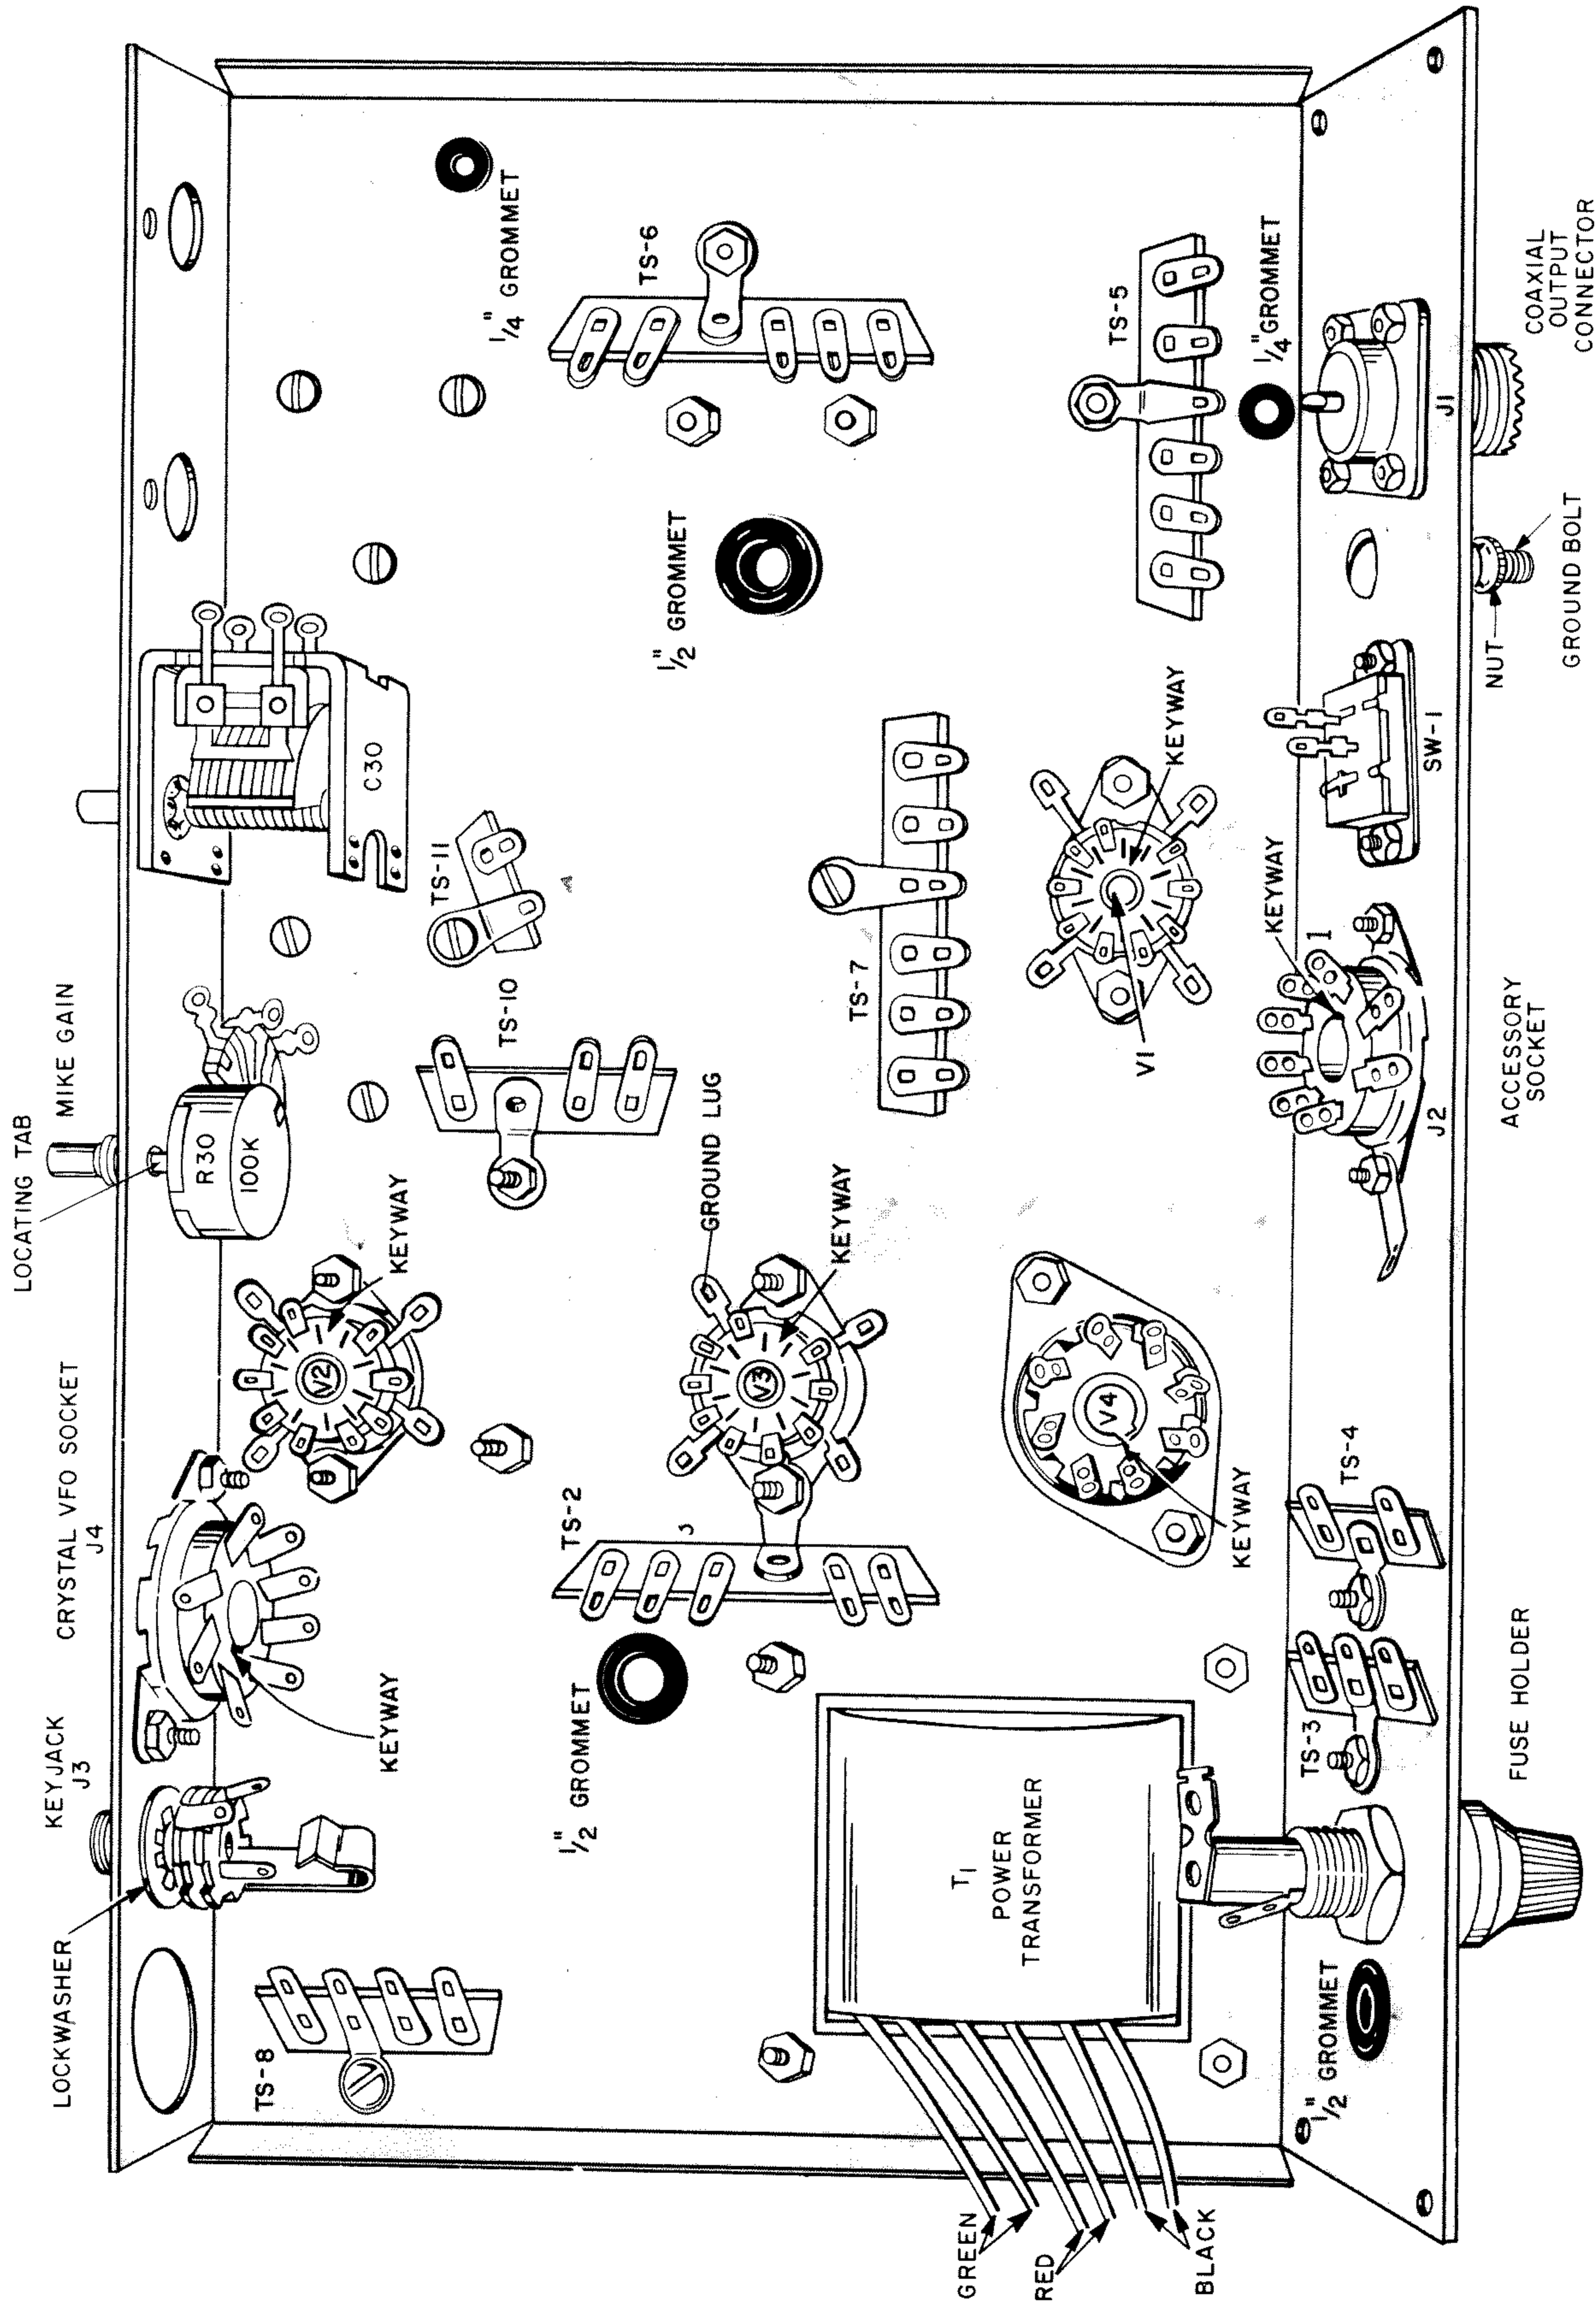
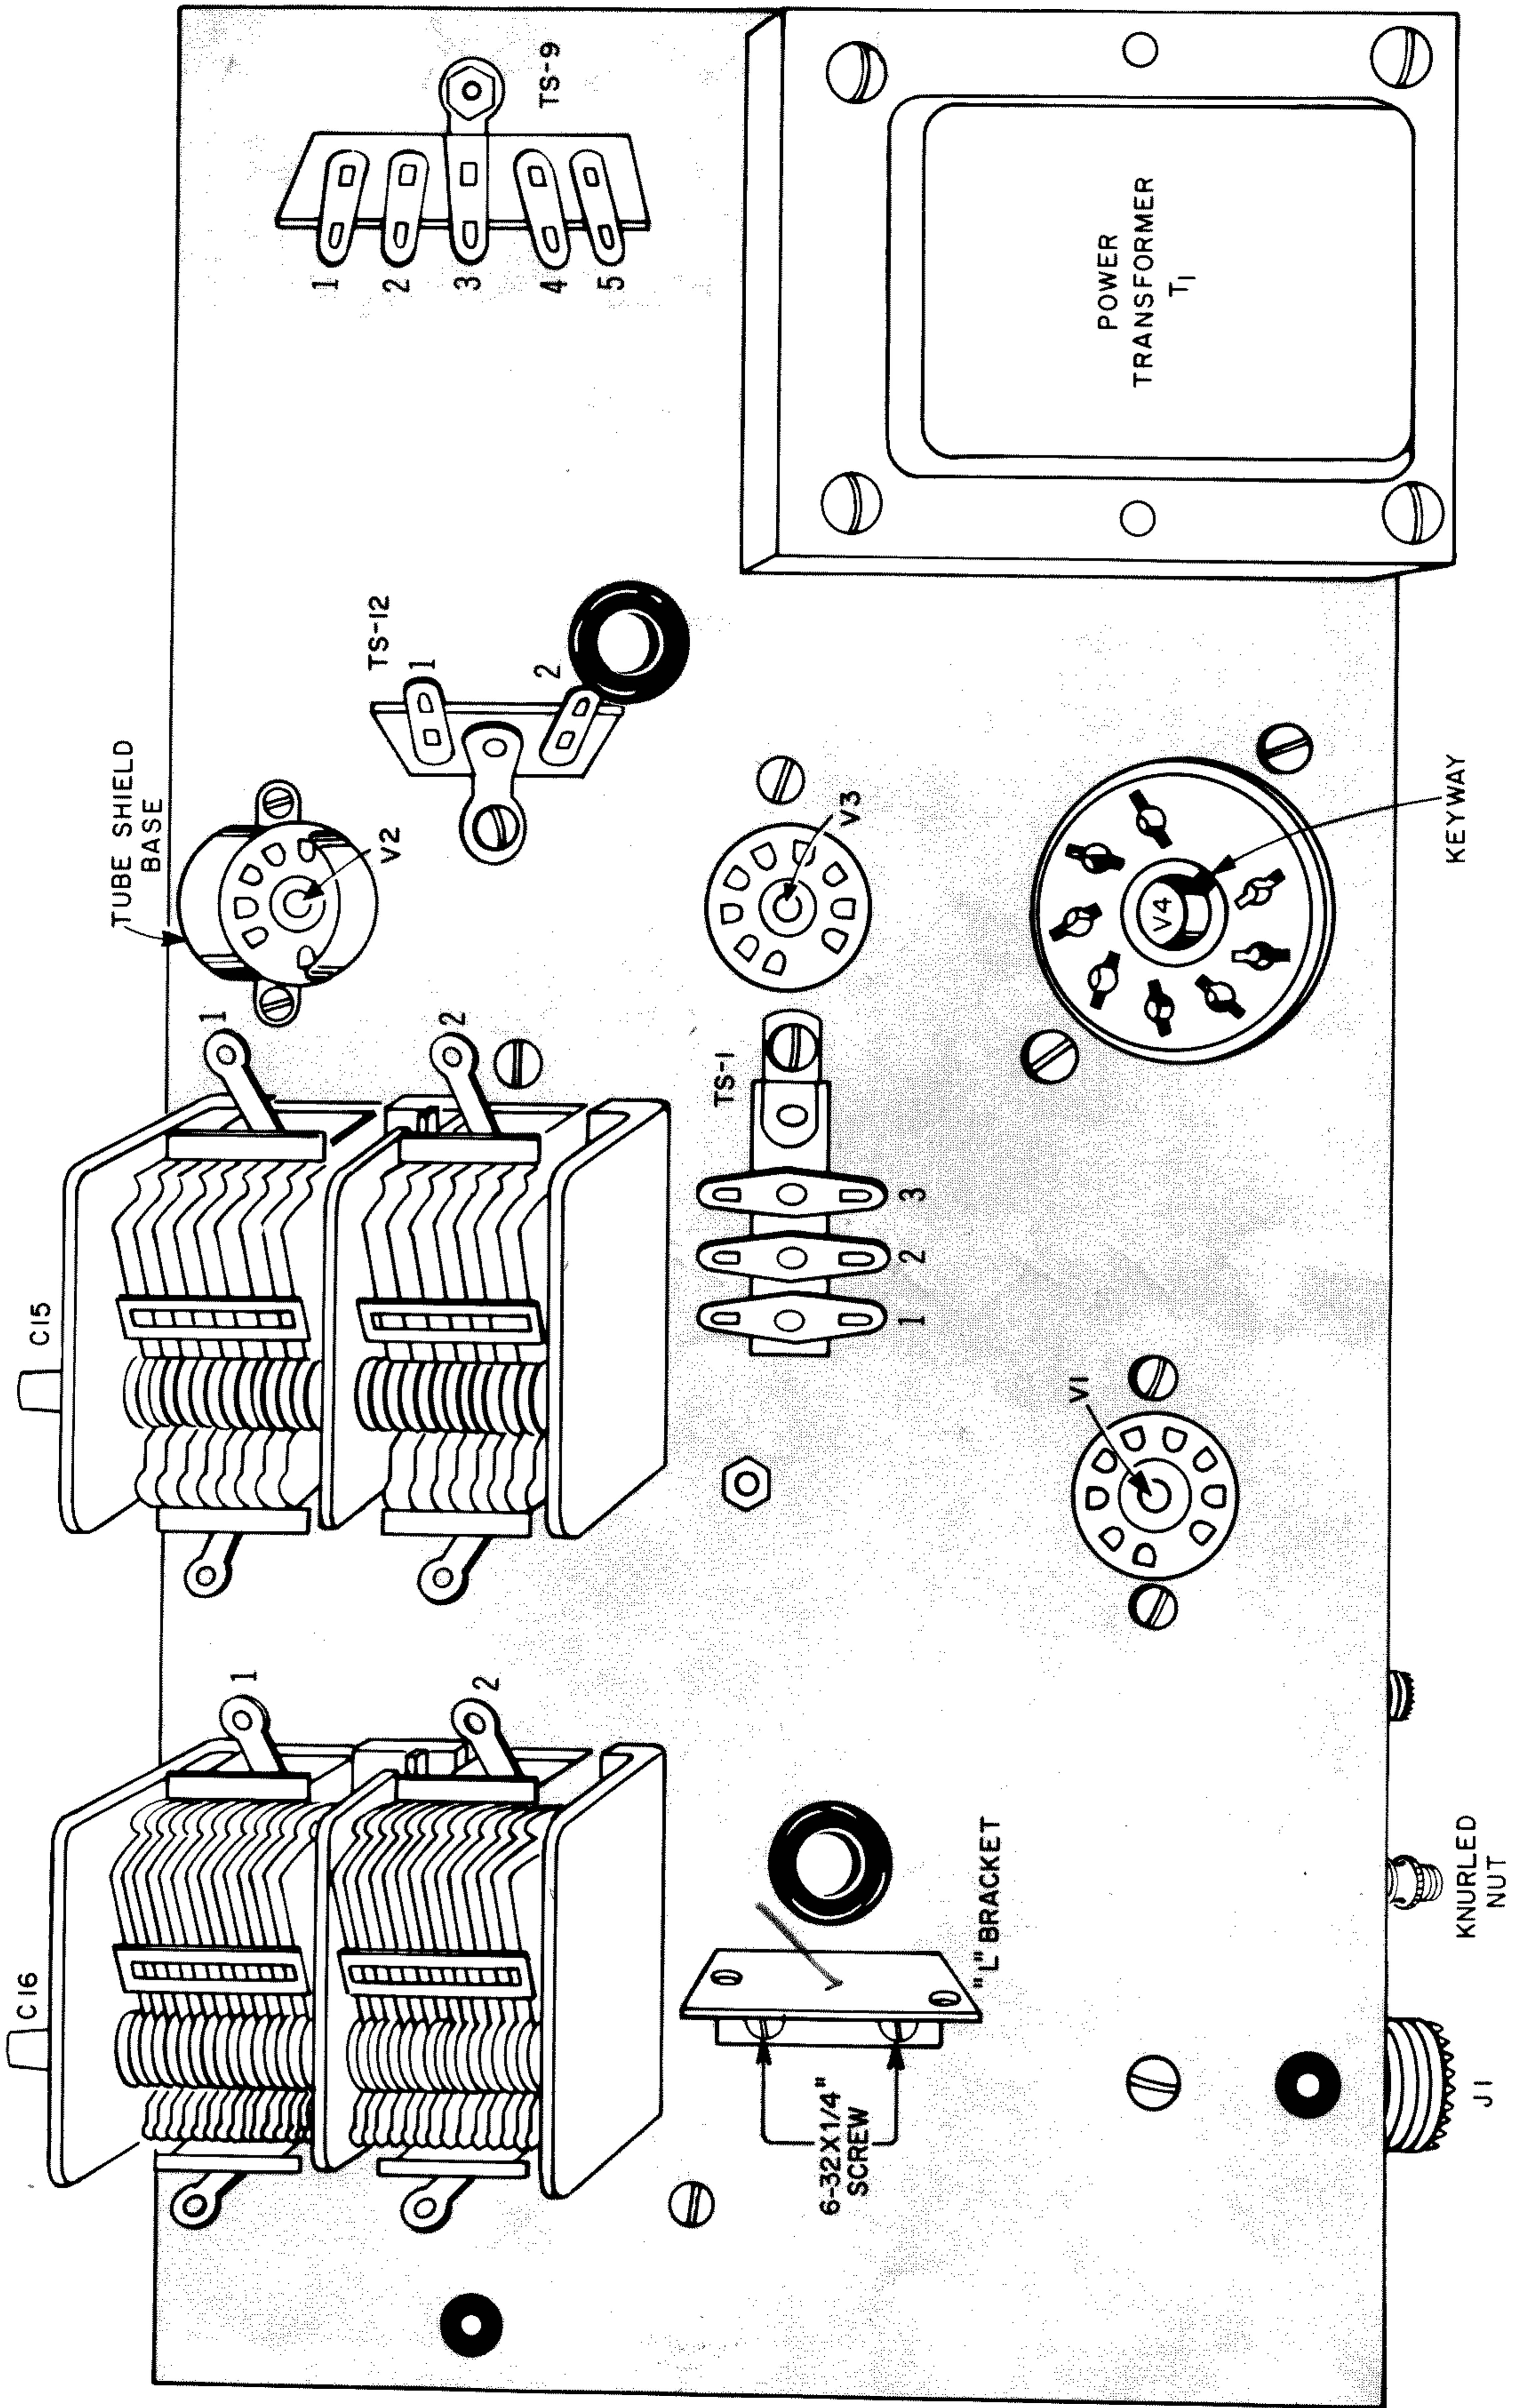

FIGURE 2
FIGURE 6
SEE FIGURES 2 AND 6
**NOTE:** It is sometimes helpful to write the part symbol on the chassis with a soft pencil or crayon. Make sure the tube sockets and terminal strips are positioned exactly as shown in Figure 2.
- J2, 8-pin accessory socket, and solder lug. Position the socket with the keyway as shown in Figure 2. Place the solder lug between the socket and lockwasher at the point shown and fasten with two 6-32 x 1/4" screws, lockwashers, and nuts.
- SW-1 slide switch. Mount so terminals are positioned as shown in Figure 2. Fasten with two 6-32 x 1/4" screws, lockwashers, and nuts.
- C-15, 2-gang, wide-spaced variable capacitor; and TS-11, 2-terminal strip. Position the capacitor on top of the chassis. See Figure 6. Insert a 6-32  $\times$   $\frac{1}{4}$ " screw through TS-11 and fasten to the capacitor as shown in Figure 2. Thread a 6-32  $\times$   $\frac{1}{4}$ " screw into the two remaining holes in the capacitor. Place a lockwasher under each screw.
- C-16, 2-gang variable capacitor. Position as shown in Figure 6. Fasten with three 6-32  $\times$   $\frac{1}{4}$ " screws, and lockwashers.